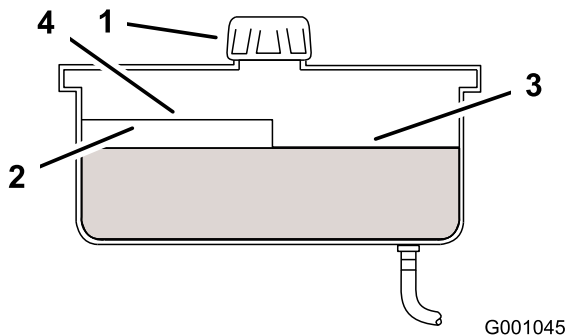

Figure 63
2. Clean the area around filler neck of hydraulic tank (Figure 63).
3. Remove the cap from the filler neck. Look inside to check if there is fluid in the reservoir (Figure 63).
- Note:** The fluid level should be to the top of the hot level of the baffle, when the fluid is hot (Figure 63).